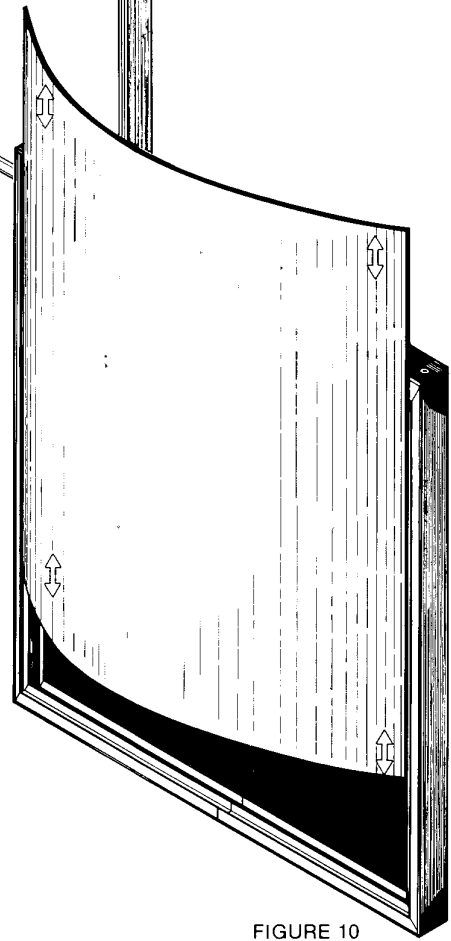

FIGURE 10
3. Fig. 10 shows the door panel being inserted and/or removed from the top of the door moulding.